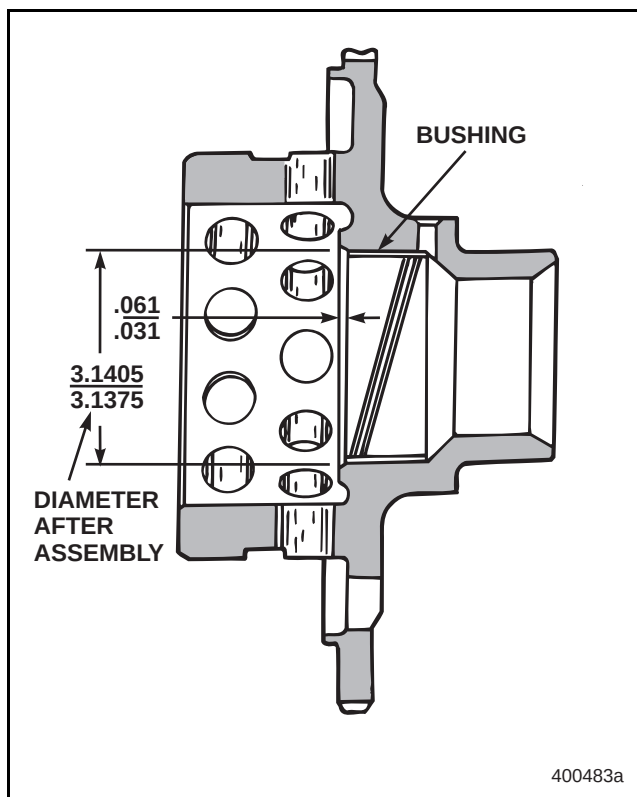

Figure 260 — Driving Cage Bushing Installation
1. If removed, insert a **new** presized bushing into the power-divider driving cage until the bushing bottoms. DO NOT OVERDRIVE. A correctly installed bushing must be recessed below the inner-cam thrust surface of the cage as shown in Figure 260.